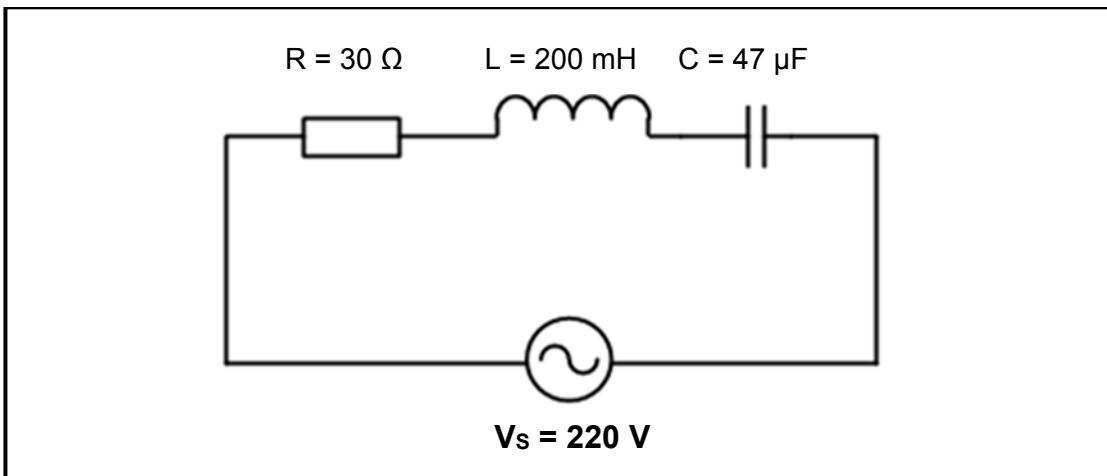

**FIGURE 5.1: RLC SERIES CIRCUIT**
5.4 The series circuit in Figure 5.1 consists of a capacitor with a capacitive reactance of  $20 \Omega$ , an inductor with an inductive reactance of  $40 \Omega$  and a resistor with a resistance of  $30 \Omega$  connected across a 240 V/50 Hz supply.